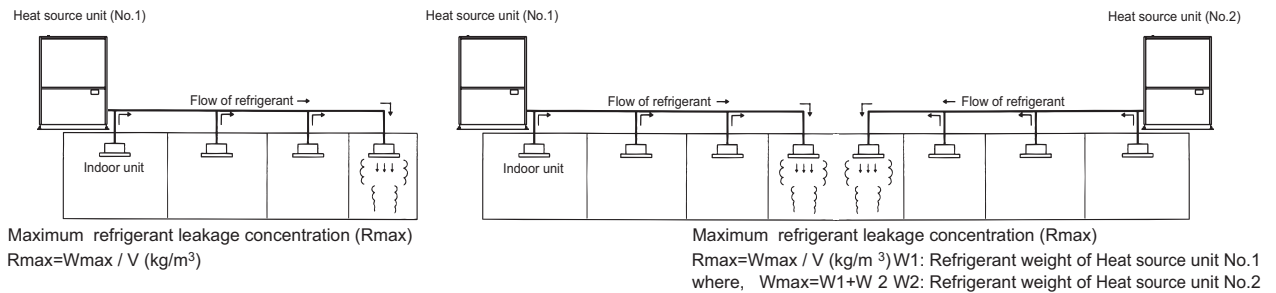

Fig. 5-1 The maximum refrigerant leakage concentration
The maximum refrigerant leakage concentration (R_{max}) is defined as the result of the possible maximum refrigerant weight (W_{max}) leaked into a room divided by its room capacity (V). It is referable to Fig. 5-1. The refrigerant of Heat source unit here includes its original charge and additional charge at the site.